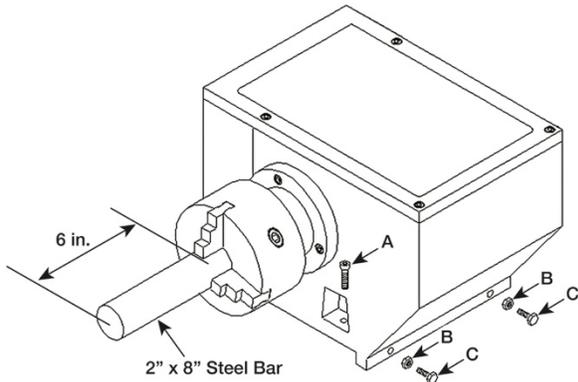

Figure 14-3: Headstock Alignment
3. Place two inches of bar stock into chuck and tighten chuck (see Figure 14-3). Do not use the tailstock or center to support the other end.
- If the measurements are not the same and adjustment is required, loosen the four bolts (A, Figure 14-3) that hold the headstock to the bed. Do not loosen completely; some drag should remain. Note: Two bolts are on the chuck side of the headstock, and the other two bolts are behind the large gear behind the end panel door.
- Loosen two hex nuts (B, Figure 14-3) found on the two adjusting bolts located on the backside of headstock. Adjust the bolts (C, Figure 14-3) for alignment and tighten hex nuts. Tighten the headstock bolts and make another cut. Keep adjusting screws after each cut until the bar stock measurements are the same. Tighten all headstock bolts and jam nuts on adjusting screws.